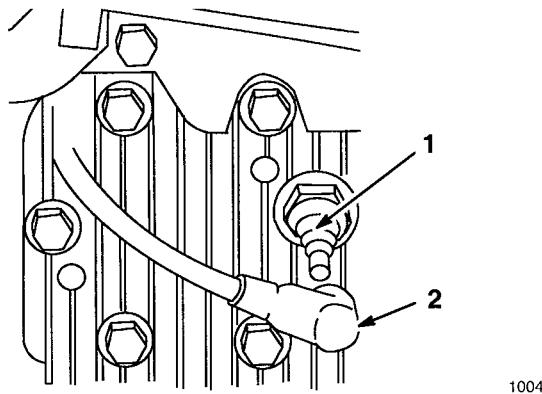

Figure 28
1. Stop engine and pull wire off spark plug (Fig. 28).